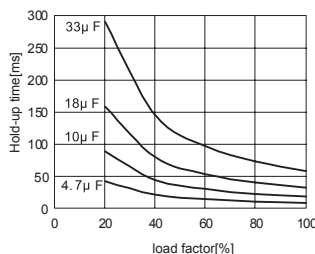
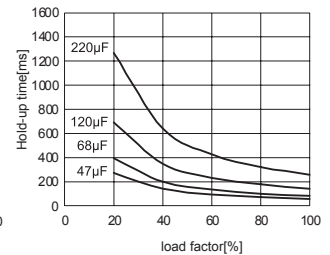

Fig.3.1 TUHS3 hold-up time(AC100V)
Fig.3.10 TUHS25 hold-up time(AC200V)
(3) Cbc: Smoothing capacitor
- In order to smooth voltage, connect Cbc between +BC and -BC. Recommended capacitance of Cbc is shown in Table 3.2. Hold-up time and load factor is shown in figure 3.1-figure 3.10.